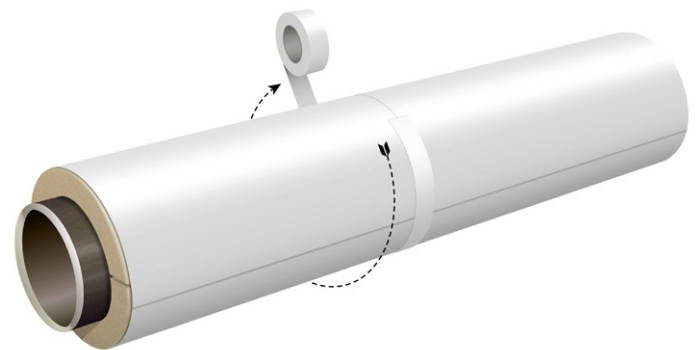

Figure 6 - Taping Pattern for Chilled Water Applications Using Trymer PIR Insulation
- 4.1.1.15 For application of Saranex CX Vapor Retarder Film over Trymer PIR insulation where a protective jacketing is not used, the taping methods shown in Table 1 of the JM Installation Guide for Trymer Rigid Polyisocyanurate Insulation in Chilled Water Applications must be followed. For factory installed Saranex CX Vapor Retarder Film with no protective jacketing, this typically requires the application of Saranex 520 CX Tape or $\frac{3}{4}$ " wide filament tape on 18" centers with 25% circumferential overlap ($1\frac{1}{4}$ wraps) over the outer surface of the Saranex CX Vapor Retarder Film. Figure 6 shows these details.